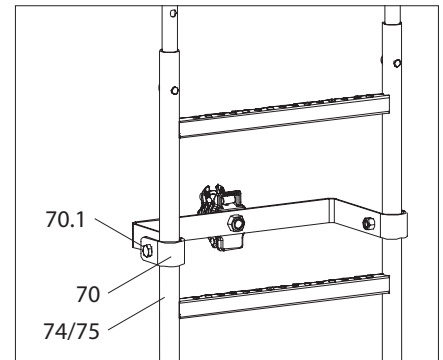

Fig. A9.08a
1. Pre-assemble the Vertical Ladder UAV (74/75) with the Ladder Connector UAV (70). (Fig. A9.08a)